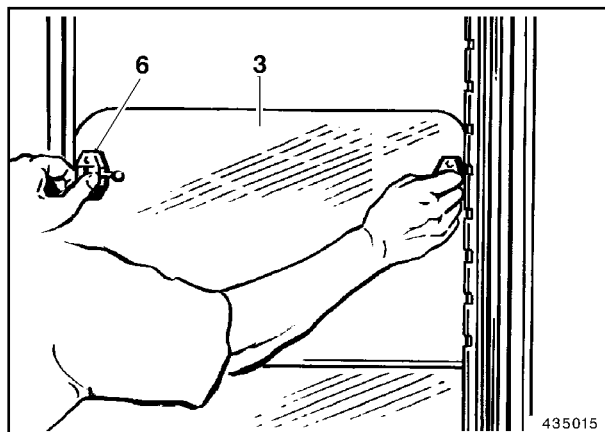

Fig. 7
Press the handles (6, Fig. 7) together and push the window (3) up or down as required. When the required position is reached, release the handles (6) and engage the window in the nearest notch.